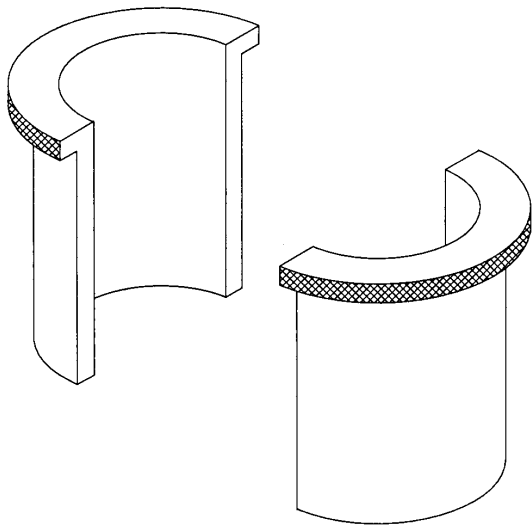

Figure 9 Packing Iron
11. Install new rings one at a time in the sequence shown on the valve assembly drawing, being careful to insure the top and bottom rings are the braided end rings. The ends of the rings should butt together; no gap or overlap. Install the rings with the butt joints offset 180° from each other. Push each ring firmly in place with a packing iron (Fig. 9), Chesterton tamping tool or similar device. When packing double packing boxes with leak-off, it is essential that sufficient rings of lower packing be installed to position the lantern ring at the level of the leak-off.